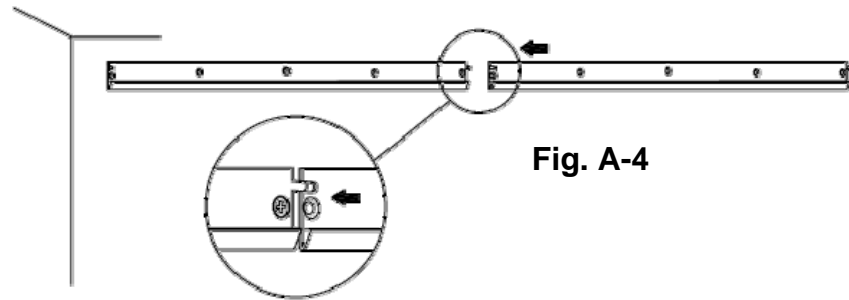

Fig. A-4
12. **Second Top Track Installation:** (Refer to Figure A-4) and follow steps 4-11 above for your type of wall installation.